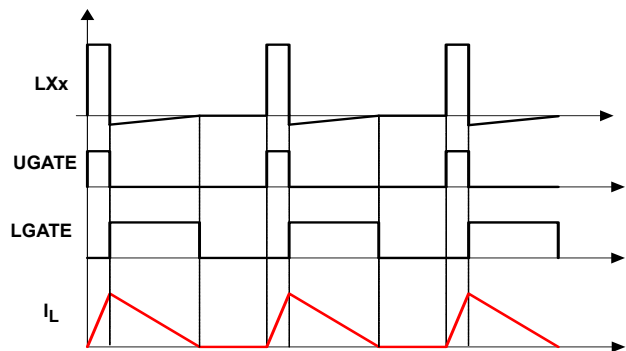

FIGURE 54. DIODE EMULATION
Diode Emulation (DE) allows for higher converter efficiency under light load situations. In DE mode, the low-side MOSFET conducts when the current is flowing from source to drain and does not allow reverse current, emulating a diode. As shown in Figure 54, when the LGATE signal is HIGH, the low-side MOSFET carries current, creating negative voltage on the phase node due to the voltage drop across the ON-resistance. When the DE pin is pulled HIGH, the ISL70003ASEH will be in diode emulation mode and detect the zero current crossing of the inductor current and turn off the lower MOSFET to prevent the inductor current from reversing direction and creating unnecessary power loss. This ensures that discontinuous conduction mode (DCM) is achieved. Since diode emulation prevents the low-side MOSFET from sinking current, no negative spike at the output is generated during prebiased startup when DE mode is active.